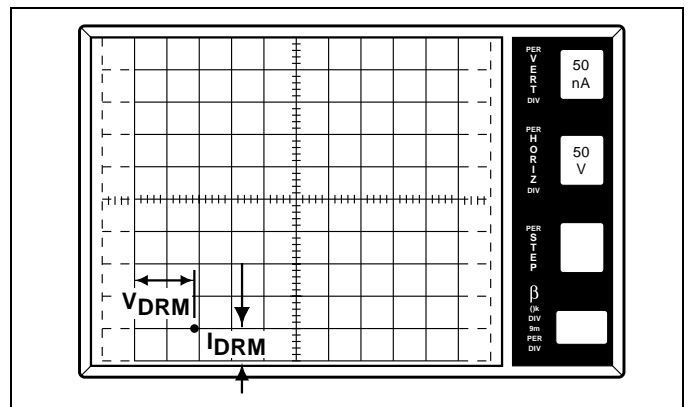

Figure 19.20  $I_{DRM}$  is equal to 50nA at  $V_{DRM}$  equal to 90 volts
- Increase *Variable Collector Supply Voltage* to the rated  $V_{DRM}$  of the device and observe the dot on the CRT. Read across horizontally from the dot to the vertical current scale. This measured value will be the leakage current. (See Figure 19.20.)